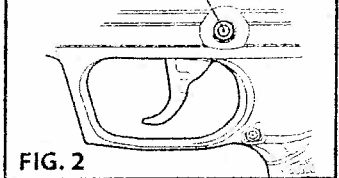

FIG. 2
Push the safety toward the "SAFE" position - NO RED SHOWING (Fig. 2).
⚠ CAUTION: Even when the safety is "ON" you should continue to handle the pistol safely. Don't point the gun at anything that you don't intend to shoot. **NOTE:** The safety is manual and not automatic. It will only do its job when you do yours. With the index finger out of the trigger area, move the safety to the "SAFE" position-NO RED SHOWING (Fig. 2). **REMEMBER, THE BEST SAFETY IS GOOD GUN HANDLING.**
After firing, return the safety to the "ON" position – NO RED SHOWING (Fig 2).
- Put safety "ON SAFE" - NO RED SHOWING (Fig. 2).